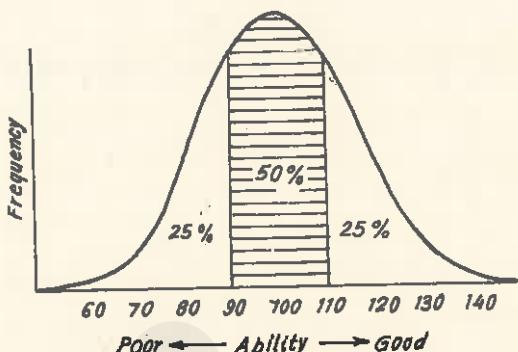

Fig. 19.1. Distribution of employees abilities.
measured trait (e.g., ability, muscular coordination, work performance, etc.) forms a distribution resembling a *Normal Distribution* and individuals fall at different points along the performance continuum (*i.e.*, the X-axis). Fig. 19.1 shows a normal distribution curve.
- Fig. 19.1 shows that about 50% individuals are near average in ability. It is these employees that a supervisor is most likely to understand and it is their performance that creates in the supervisor the notion of what he can expect in the form of a day's work.